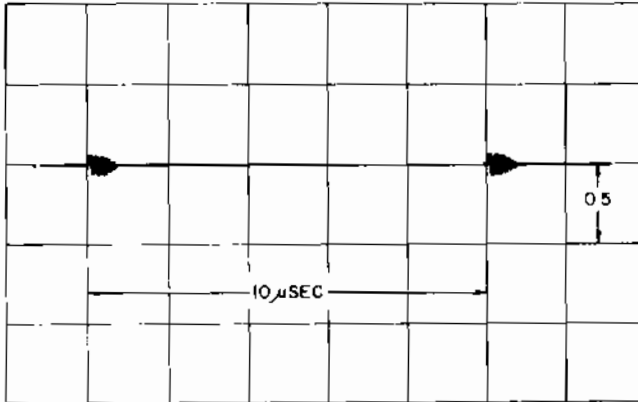

FIGURE 6.12 - WAVEFORM AT E87, 100 KC SPECTRUM OUTPUT
l. Compare the waveform at E87 (100 kc/s spectrum output) with that in figure 6.12.